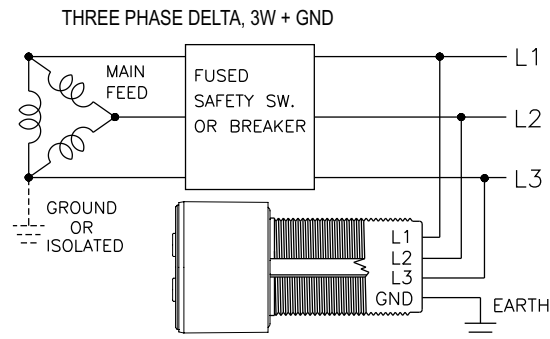

Figure 1
2. Locate the unit in visual proximity to the control panel ON/OFF disconnect and within wiring distance to incoming Main Lines and Earth Ground. Mount the unit through a 30.5 mm knockout hole on the three-phase control panel to be monitored. To meet Type 12, 13, 4, or 4X sealing requirements, mount with supplied cap on a clean flat surface or inside a Type 4 or 4X housing. (Fig. 1)